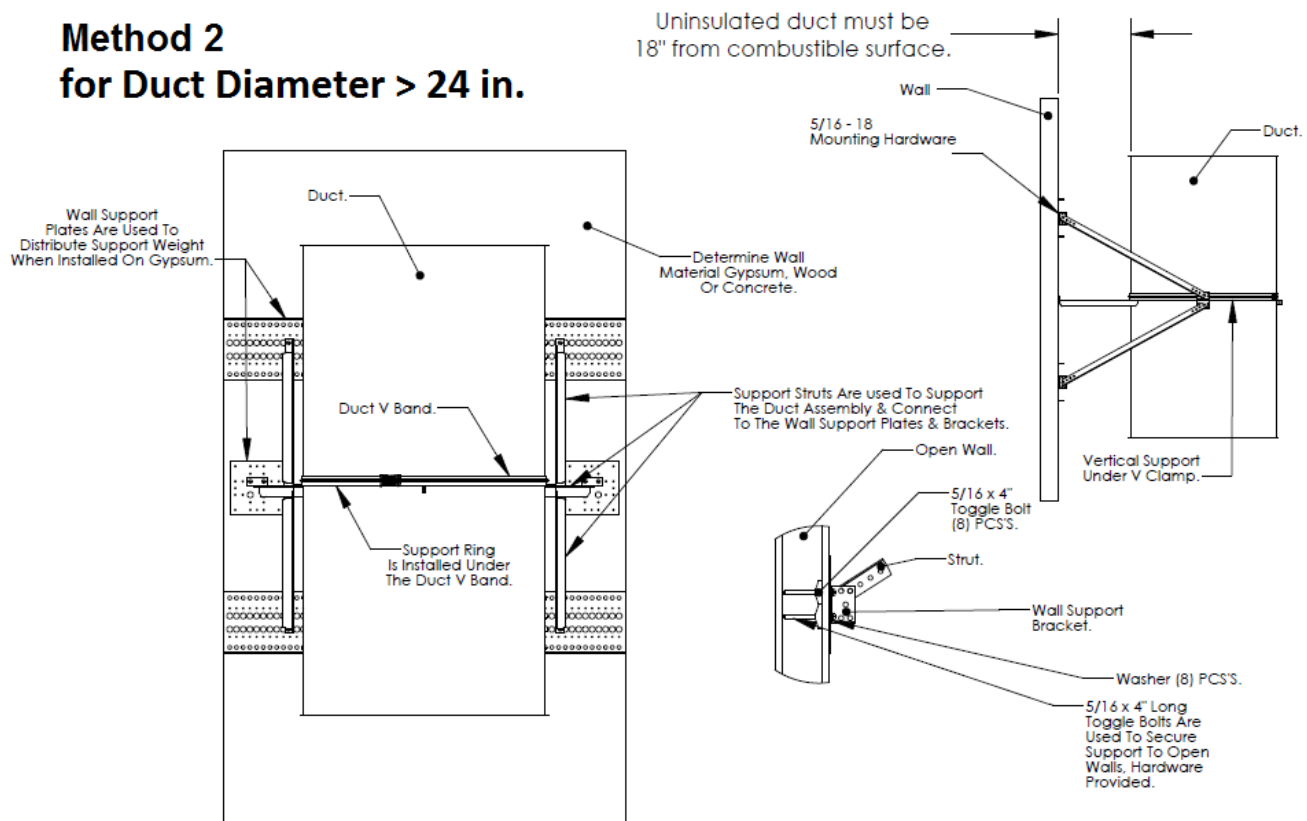

Figure 4. Vertical Wall Supports
- B. **VERTICAL SUPPORTS (Wall)** – Refer to Figure 4 for depiction of Method 1 and Method 2 installations. Use the vertical support assemblies supplied by the duct
Where the pre-fabricated grease duct (Item 1) is installed vertically along a wall as depicted in Figure 4 below, provide supports spaced as follows: